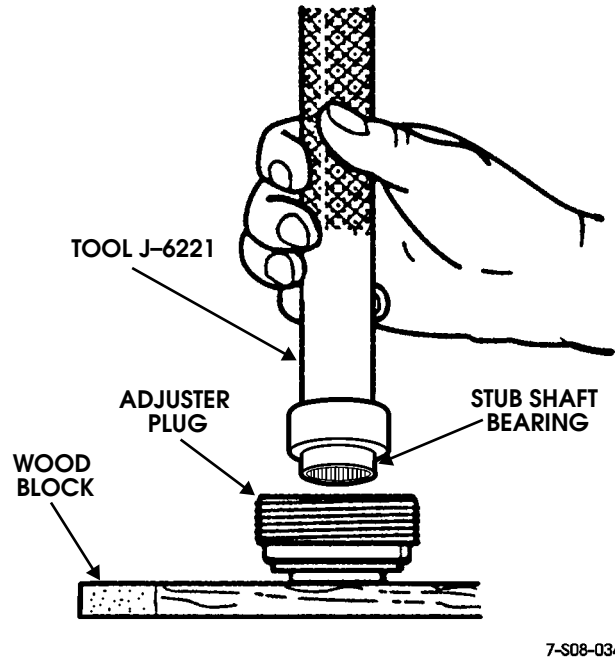

Figure 8-60: Installing Stub Shaft Bearing and Seals In Adjuster Plug
2. Install stub shaft bearing in adjuster plug with tool J-6221 (Figure 8-60). Place adjuster plug on wood block as shown.